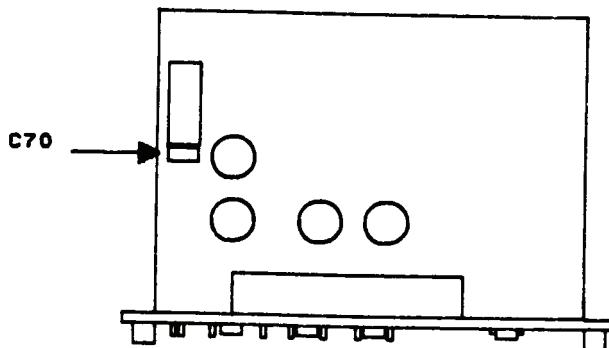

Figure 4. Test instrument, version A bottom view.
a. Performance Check. Connect multimeter between plus side of C70 (fig. 4) and ground. If multimeter does not indicate between 19.5 and 20.5 V dc, perform **b** below.